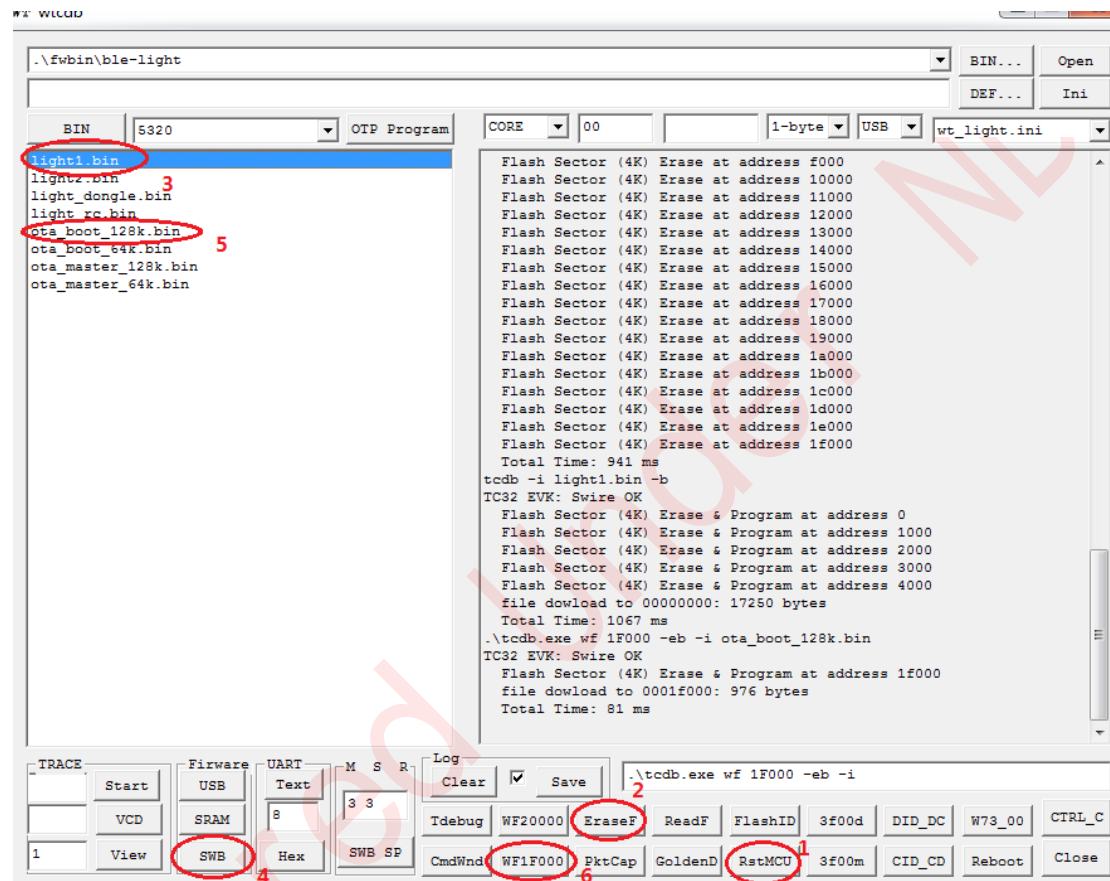

Figure 38 Burn old firmware and OTA boot loader into light board
- 3) Connect the light module, EVK and PC. According to steps in Figure 38, download the old firmware (e.g. light1.bin) into flash address starting from 0x00 of the light board, and burn the OTA boot loader (e.g. ota_boot_128k.bin) into the flash address starting from 0x1F000.